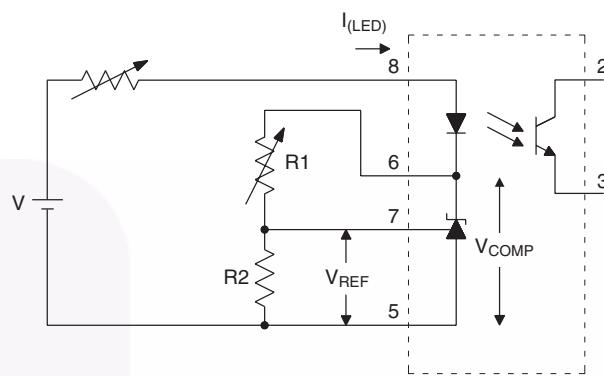

Figure 2. $\Delta V_{REF}/\Delta V_{COMP}$ Test Circuit
5. The dynamic impedance is defined as $|Z_{OUT}| = \Delta V_{COMP} / \Delta I_{LED}$. When the device is operating with two external resistors (see Figure 2), the total dynamic impedance of the circuit is given by: